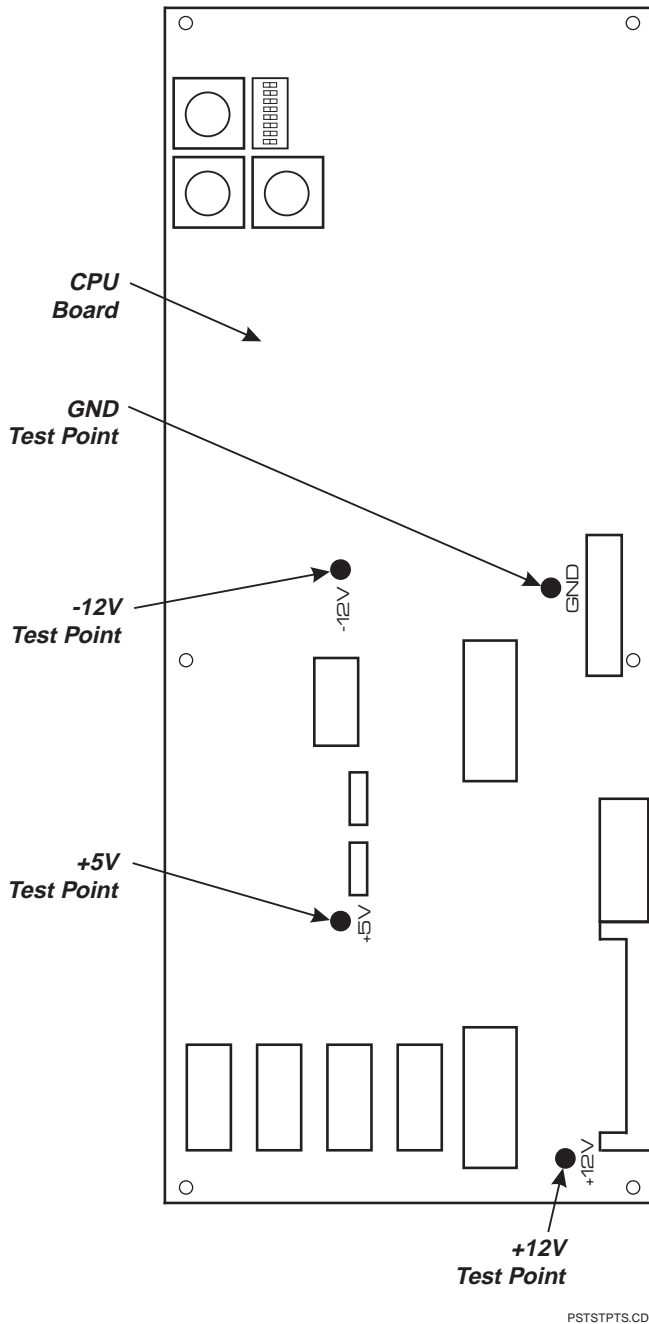

Figure C-2. Di-Metric Plus Power Supply Voltage Test Points
3. Test points for the three power supply voltages — +5 VDC, +12 VDC, and -12 VDC — are located on the CPU board. Refer to Figure C-2 to find these three test points, as well as the GND test point. All four test points are labeled on the CPU board. You can leave the CPU board installed in the compartment while testing power supply voltages.
4. Using a multimeter, **connect the black lead to the GND test point, and the red lead to the -12 VDC test point.** With these connections made, the multimeter should display a reading **between -11.6 V and -12.4 V.** If the multimeter reading falls within this range, proceed to step 5 below. If the reading does not fall within this range, you must replace the power supply. Contact the OGP Service Department at (716) 544-0400 for help.
5. Using a multimeter, **connect the black lead to the GND test point, and the red lead to the +12 VDC test point.** With these connections made, the multimeter should display a reading **between +11.6 V and +12.4 V.** If the multimeter reading falls within this range, proceed to step 6 below. If the reading does not fall within this range, you must contact the OGP Service Department at (716)544-0400 for a replacement power supply.